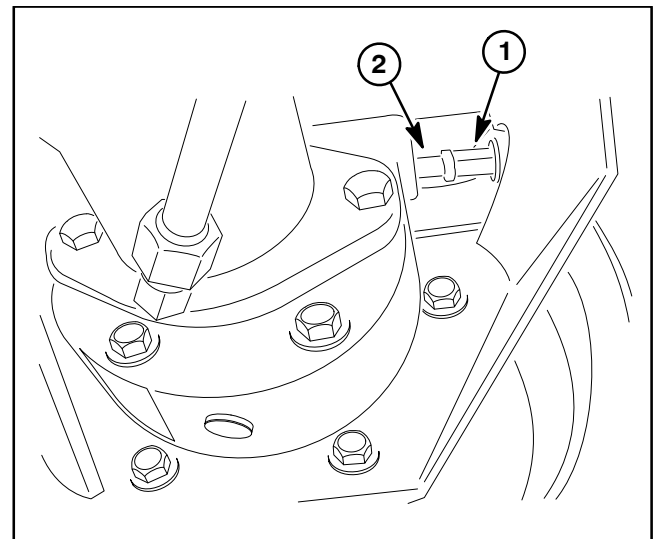

Figure 4
6. Disconnect brake cable from pull rod on brake (Fig. 4).
7. Support brake assembly and remove flange head cap screws (item 11) securing brake assembly to frame. Remove brake assembly.
9. Remove and discard gasket (item 12). Make sure that all gasket material and sealant is removed from both the brake and the planetary assembly.
3. Install brake cable to pull rod on brake assembly (Fig. 4). Brake cable end should be completely threaded onto pull rod before tightening jam nut.
4. Make sure wheel motor O-ring (item 4) is in position and secure wheel motor to planetary with two (2) cap screws and flat washers.